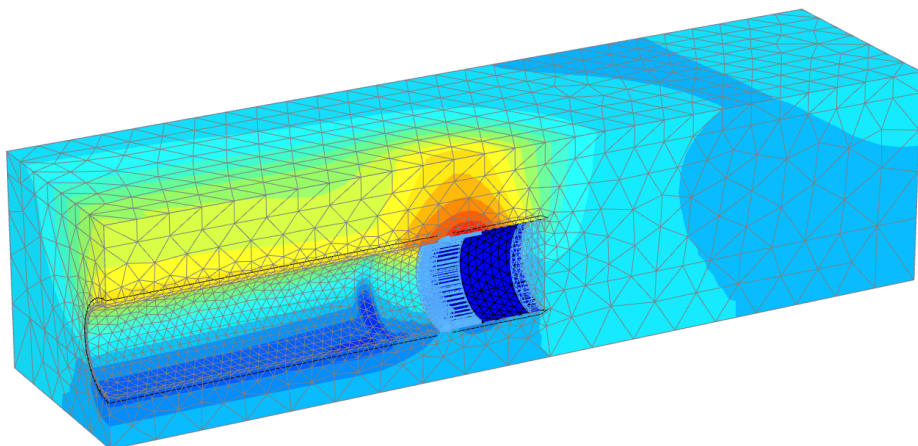

Figure 5.26 Total vertical displacements after the final phase $u_z \approx 3.1\text{ cm}$
- From the *Deformations* menu, select *Total displacements* and then u_z in order to see the total vertical displacements in the model as a shaded plot (Figure 5.26).